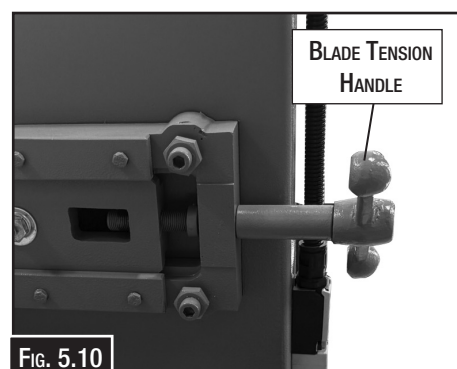

FIG. 5.10
6. Loosen the blade tension knob. (Fig. 5.10)